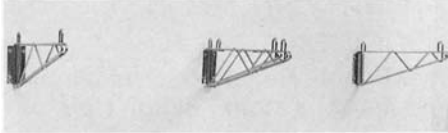
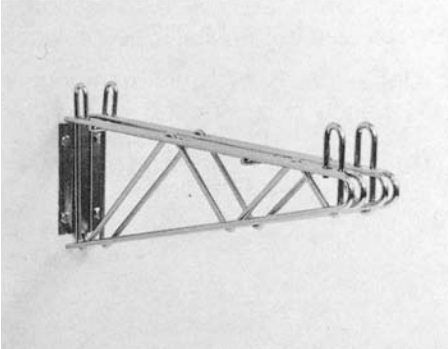

Fig. 1
Fig. 2
2. Follow operations 2 through 8 from the preceding section, except use the mounting hole location diagram for multi section unit. Be certain to locate the single and double shelf supports in their designated locations (Fig. 1 and Fig. 2).